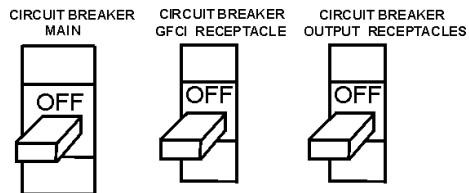

Figure 30. Main, GFCI and Load circuit breakers
1. Switch both the MAIN, GFCI and LOAD circuit breakers (Figure 30) to the "OFF" position.